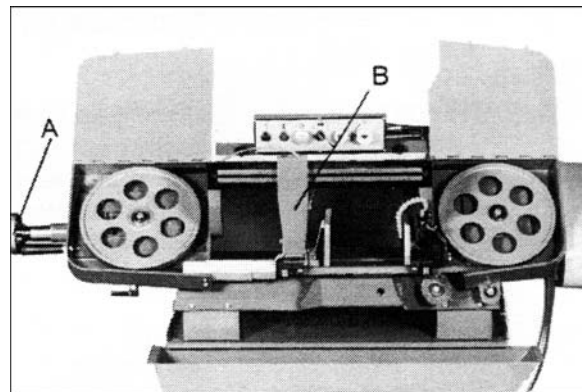

Figure 7
4. Release blade tension by turning blade tensioning handwheel (A, Figure 7) counter-clockwise until blade is free.
5. Loosen lock knob and slide left blade guide arm (B) to the right as far as possible.